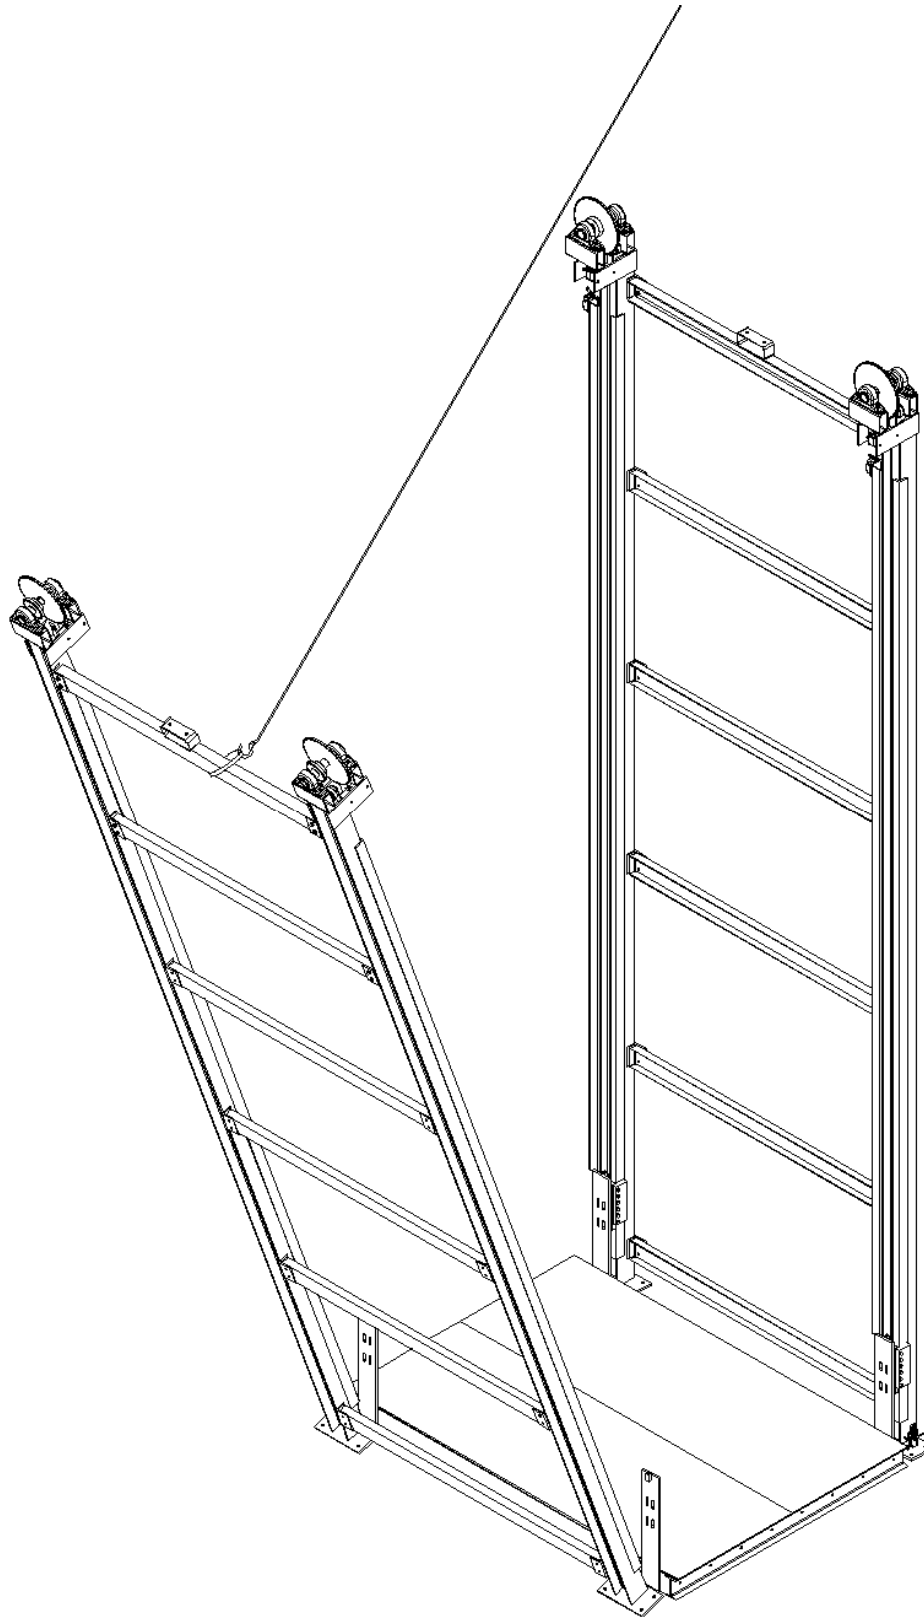

Figure 22 Raising the Mast Beam Assemblies
3. Raise each beam pair assembly and place along side the carriage in the correct orientation (guide angles on the inside of the beams). Refer to **Figure 22**.